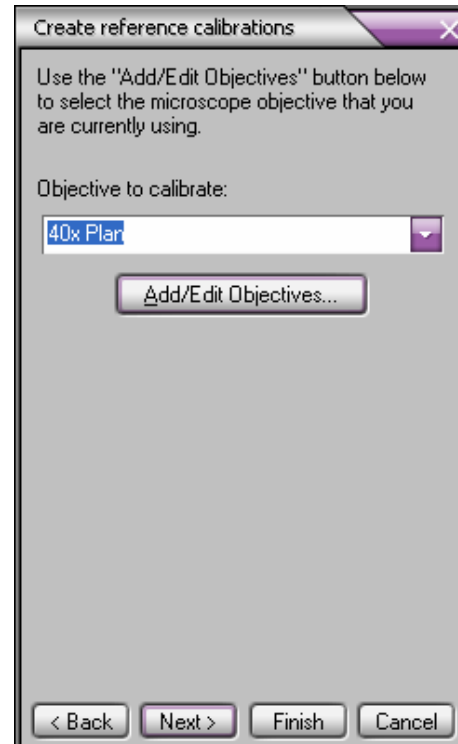

Figure 5. Selecting a lens for calibration
- The wizard will next ask you for a lens to calibrate (Fig. 5). If you are just setting up your system, click ‘Add/Edit Objectives...’ to add new objectives to the list (Fig. 6).